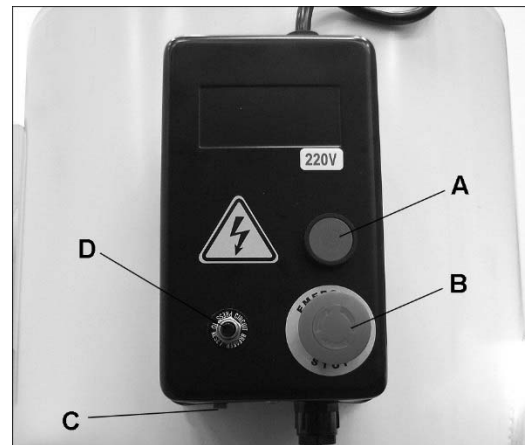

Figure 16
Press green start button (A, Figure 16) to start dust collector. Press red stop button (B) to stop.
To clear the remote controller, press and hold reset button (C, Figure 16) for 3 seconds until receiver “beeps” 3 times.
1. Press reset button (C, Figure 16) for 1 second until receiver “beeps” once.
3. Press and hold reset button (C) for 3 seconds until receiver “beeps” 3 times.
If the overload is tripped, allow the machine to cool down for several minutes. Then press reset button (D, Figure 16) and restart the dust collector.